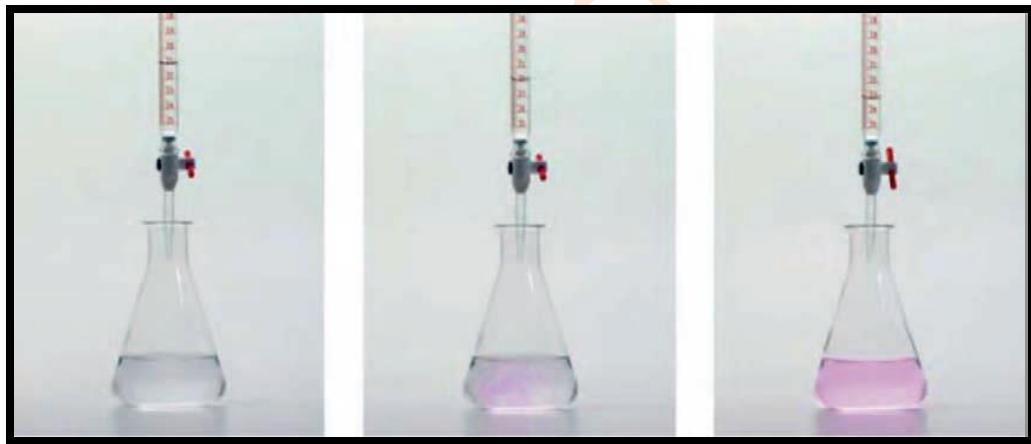

Figure 1.2: The Techniques of Titration.
- An acid–base titration is a procedure for determining the amount of acid (or base) in a solution by determining the volume of base (or acid) of known concentration that will completely react with it. In a titration, one of the solutions to be neutralized say, the acid is placed in a flask or beaker, together with a few drops of an acid base indicator (**Figure 1.2**). The other solution (the base) used in a titration is added from a burette and is called the titrant. The titrant is added to the acid (Titrand or analyte), first rapidly and then drop by drop, up to the equivalence point. The equivalence point of the titration is the point at which the amount of titrant added is just enough to completely neutralize the analyte